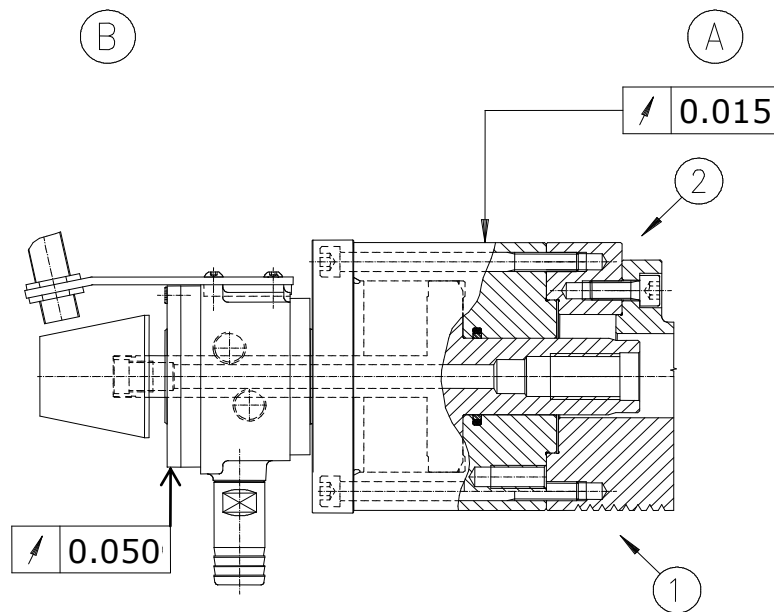

Fig. 3
The cylinders 1304 should be installed from their rear part with long bolts (see Fig. 3). This solution enables installation of the cylinder directly on e.g. a pulley, thus as close to the rear spindle bearing as possible, what eliminates the need of application of an additional dog. The above mentioned long bolts are part of the supply.
5.3. Having checked the base surfaces of the dog installed on the rear end of the spindle, install the cylinder on the dog and fasten it with Allen bolts. First tighten the cylinder slightly with the bolts, and then align it so that its rotation would match the accuracy criteria on the Fig. 3. Finally, tighten the bolts with torque given in the Table 4.